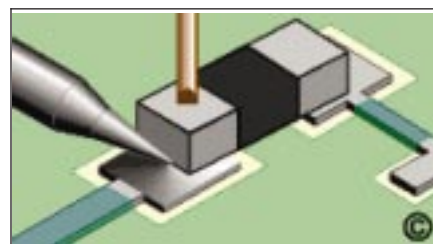

Figure 2
10. Observe complete solder melt. This is evident by component dropping down onto land. area. (See Figure 2.)